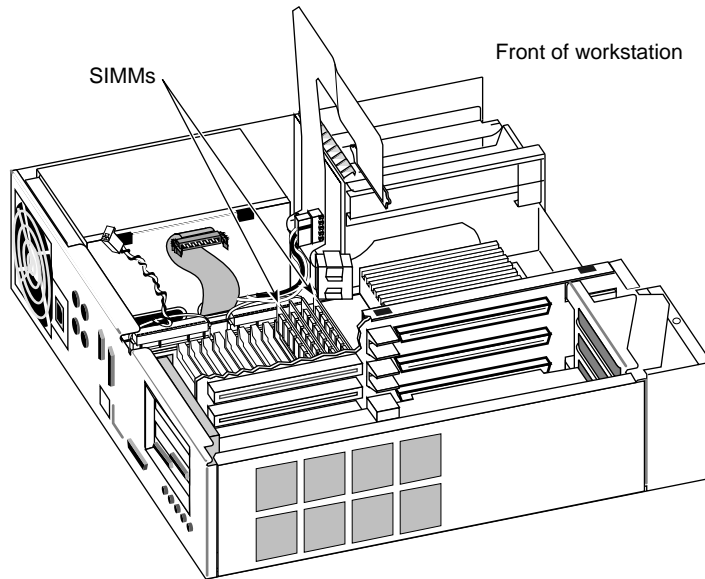

Figure 3-7 Locating the SIMM Sockets
4. Turn the workstation so that you face the rear of the chassis. The SIMM sockets are in the center of the workstation, toward the back of the chassis, as shown in Figure 3-7.